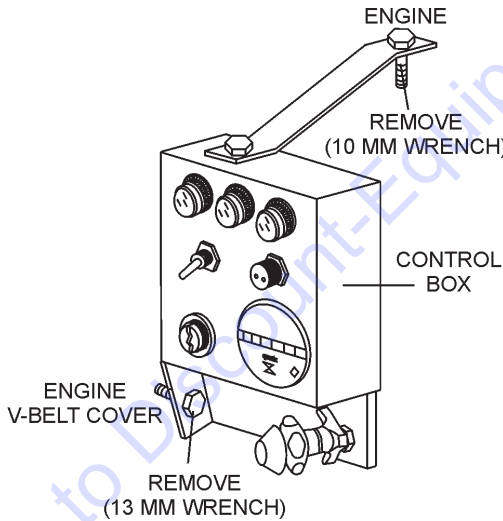

Figure 5. Control Box Removal
1. Using a 10 mm wrench, remove the upper bolt (Figure 5) that secures the control box bracket to the engine.